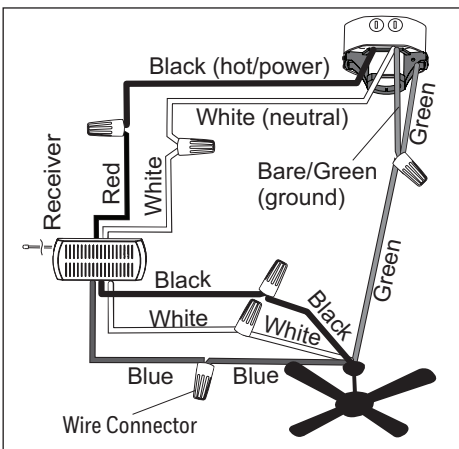

Figure 5.1
1. Secure all wiring connections together with wire connector from hardware bag and the wire connectors from remote pack according to the diagram and these steps (Figure 5.1):